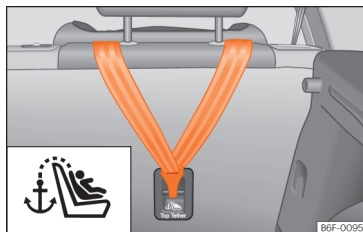

Fig. 42 Rear part of the rear seats: securing rings for the Top Tether strap.
- Slide the strap and secure it properly with the anchor on the rear seat backrest >>> **Fig. 42.**